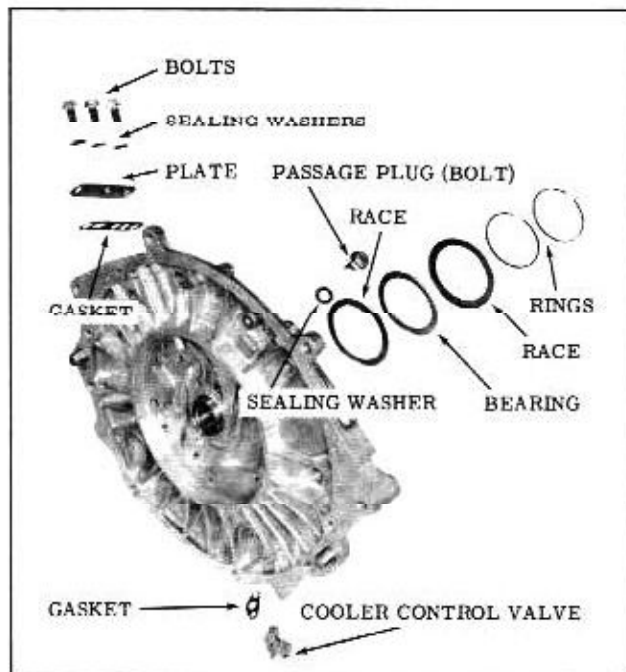

Fig. 3-61 Case Cover Assembly
1. If removed, install case cover plate and gasket with 3 attaching bolts and seal washers. Torque 18 to 20 ft. lbs. (Fig. 3-61)